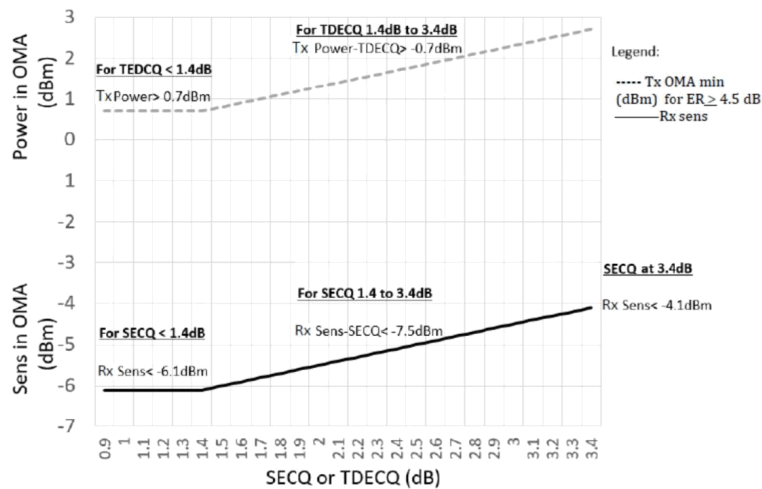

Figure 4. Illustration of Receiver Sensitivity Mask for 100G-LR
- Receiver sensitivity (OMA_{outer}), each lane (max) is informative and is defined for a transmitter with a value of SECQ up to 3.4 dB. It should meet Equation (1), which is illustrated in Figure 4.